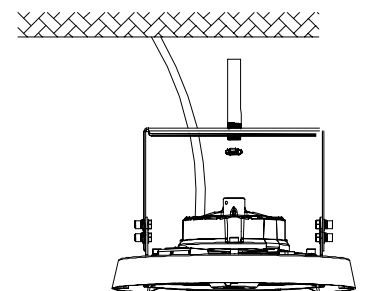

FIGURE 10
3. Re-screw the nuts (Figure 10)